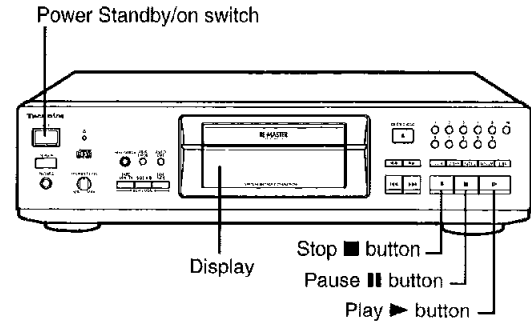

Fig. 7-1.
2. While pressing and holding the Stop, Pause and Play button, turn the unit on again. Refer to Fig. 7-1. (The self-diagnostic function is activated.)
4. Press the Play button to play the test disc. Refer to Fig. 7-1.